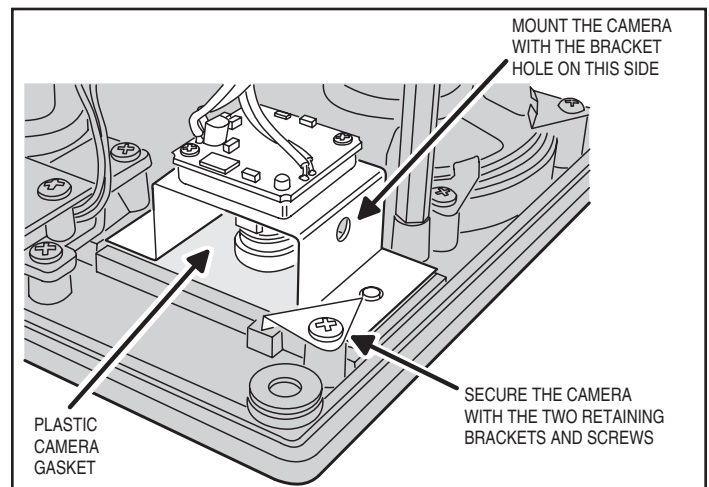

Figure 25. Installing the Camera
4. Mount the camera assembly on the two mounting posts, with the alignment hole in the camera bracket towards the edge of the RE-2 case. Secure the camera with the two retaining brackets and screws (see Figure 25).